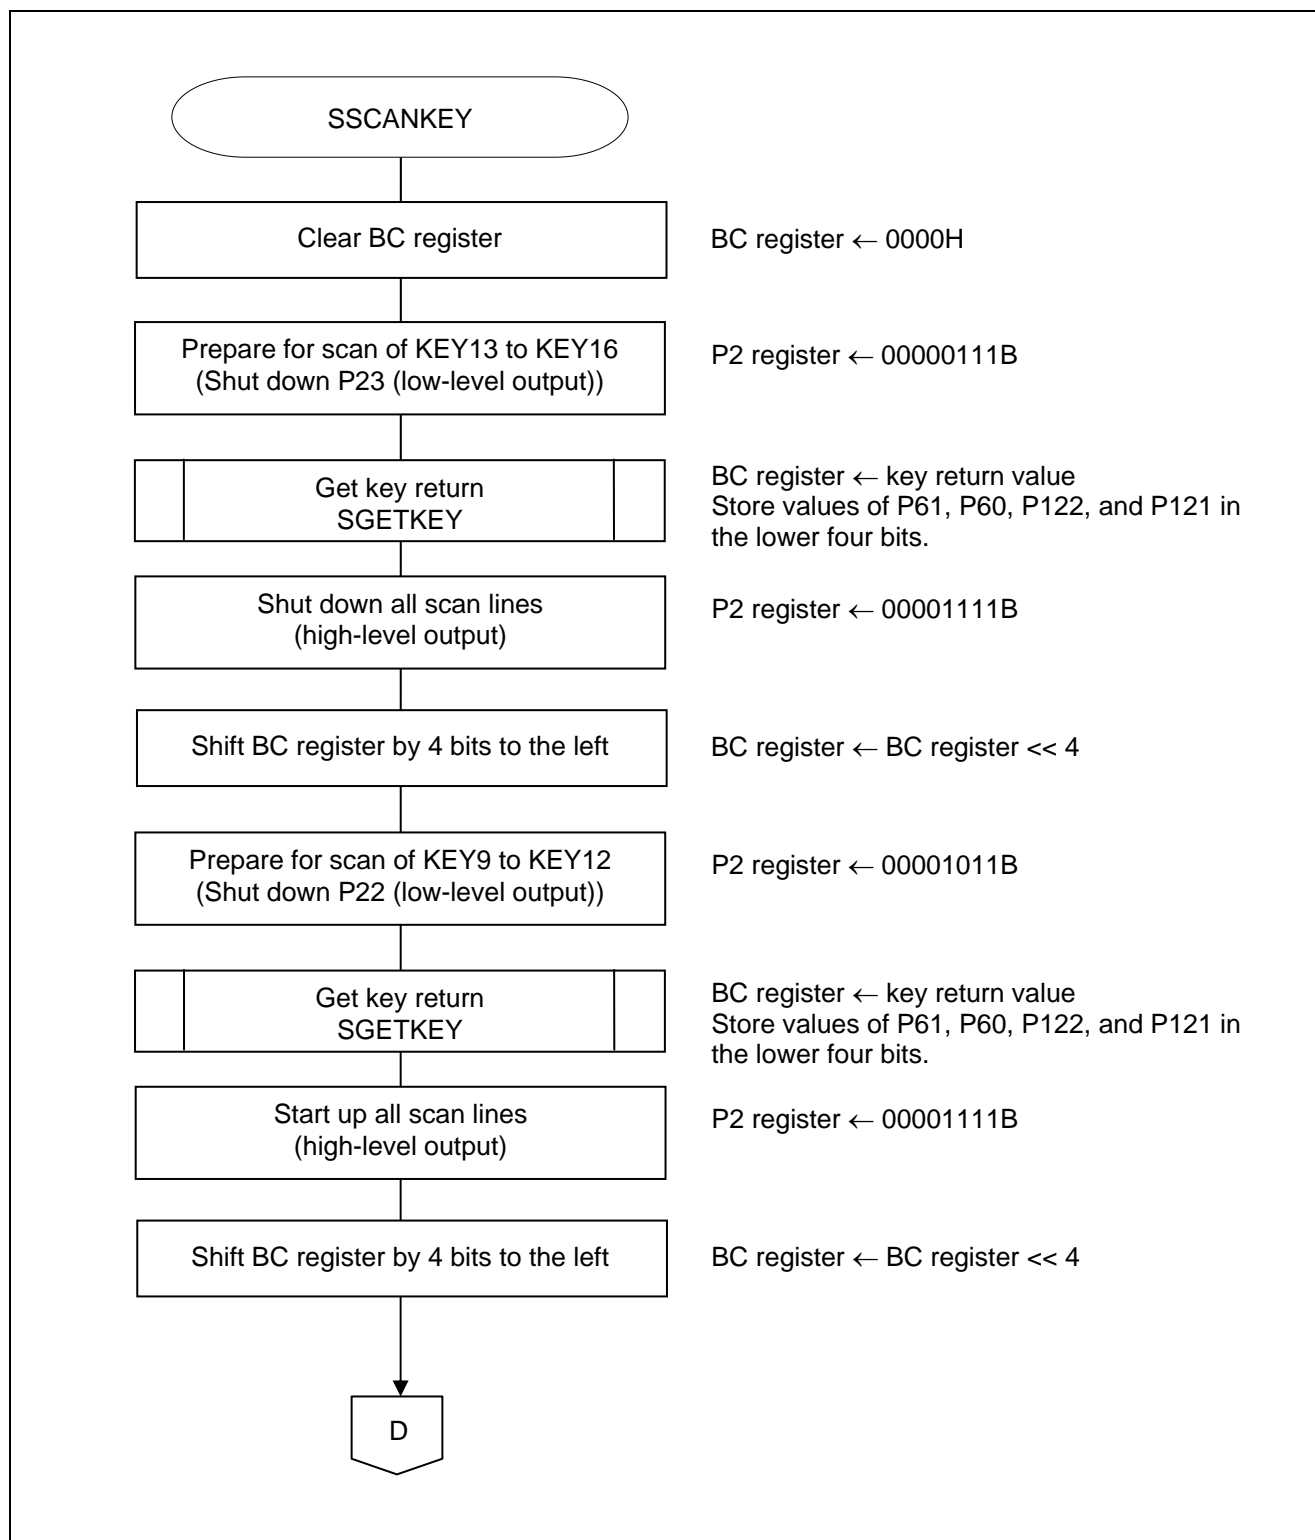

Figure 5.11 Detecting Input Key (1/2)
Figures 5.11 and 5.12 show the flowcharts for detecting input key (1/2) and (2/2), respectively.